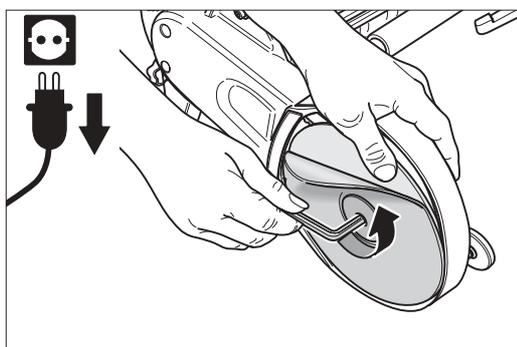

Fig. 47: Undo the sandpaper tensing screw. To hold the sanding disc wheel, use your thumb to grab behind the sanding disc.
- 4 Use the proper Allen key and undo the sandpaper tensing screw (normal right-hand thread). At the same time, use your other hand to hold the sanding disc wheel. If you use your thumb to grab behind the sanding disc, you will reduce the wear on the sandpaper tensing screw (Fig. 47).